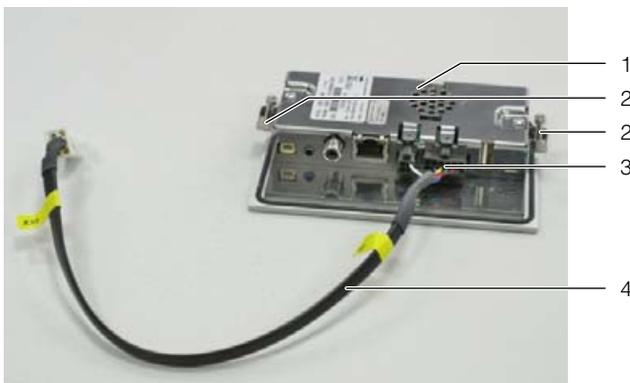

Fig. 35: Preparing the graphic display
- Insert the fastening clamps with screws (fig. 35, item 2) on the left and right of the display.
- Insert the connection cable (fig. 35, item 4) into the bottom of the display (fig. 35, item 3).